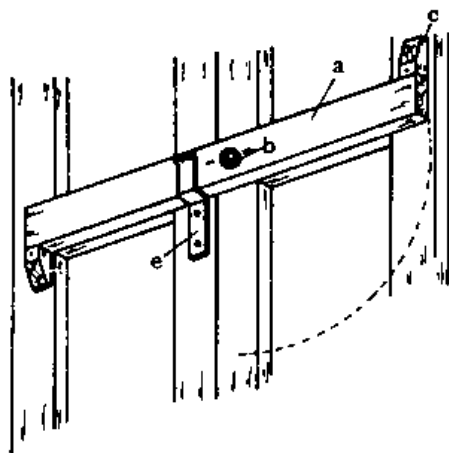
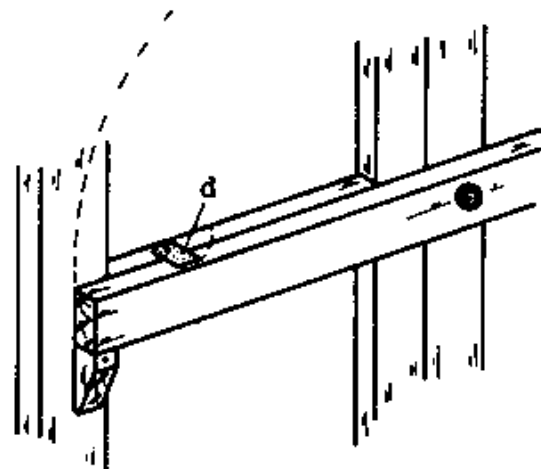

Fig. 4
Fig. 5
- LOCKING DEVICE FOR LARGE DOORS: The drawings below show a locking device used for large doors on stores etc, where trucks or other vehicles may have to enter to deliver goods (Fig. 4). It consists mainly of a long baulk (a) which can hold the two doors securely shut. The baulk is fixed with a coach bolt (b) onto one of the doors.
Two wooden blocks (c) hold the baulk in position when the doors are closed and a catch (d) prevents the baulk from swinging open by its own weight or from a gust of wind (Fig. 5). A piece of flat iron (e) bent as shown in Fig. 4, keeps the baulk in the locked position. This iron should be firmly attached to the door.